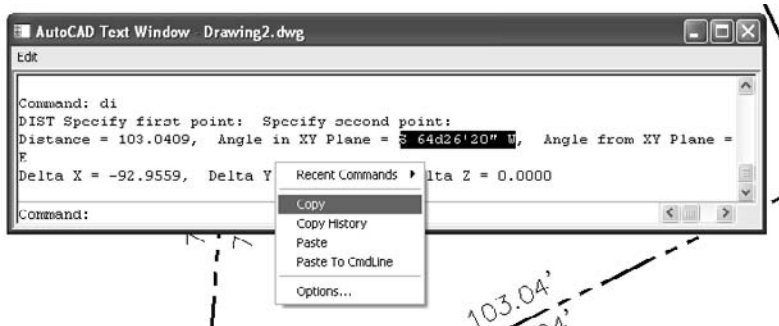

Figure 4.29
5. Copy the result from the text window to the clipboard (see Figure 4.29).